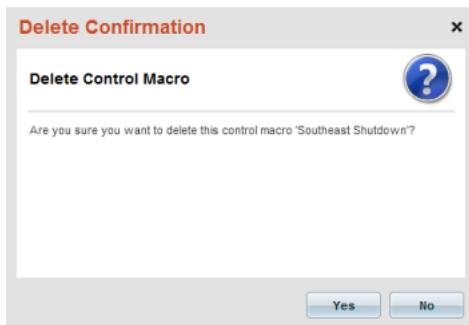

FIG. 289 Delete Confirmation dialog - Control Macro
3. The program will prompt you to verify this action before the control macro is deleted from the system (FIG. 289).